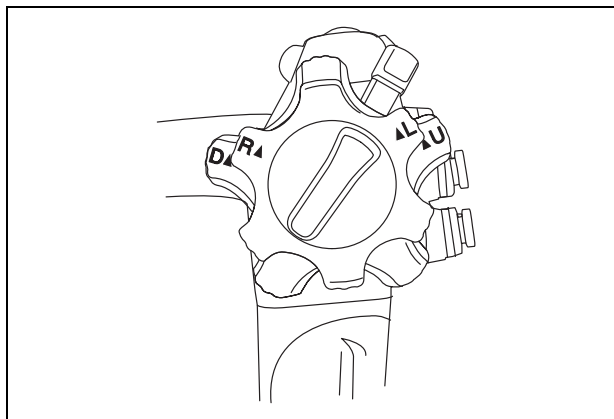

Figure 3.7
3. When the UP/DOWN and RIGHT/LEFT angulation control knobs are turned to their respective neutral positions as shown in Figure 3.7, confirm that the bending section returns smoothly to an approximately straight condition (except GIF-N260).